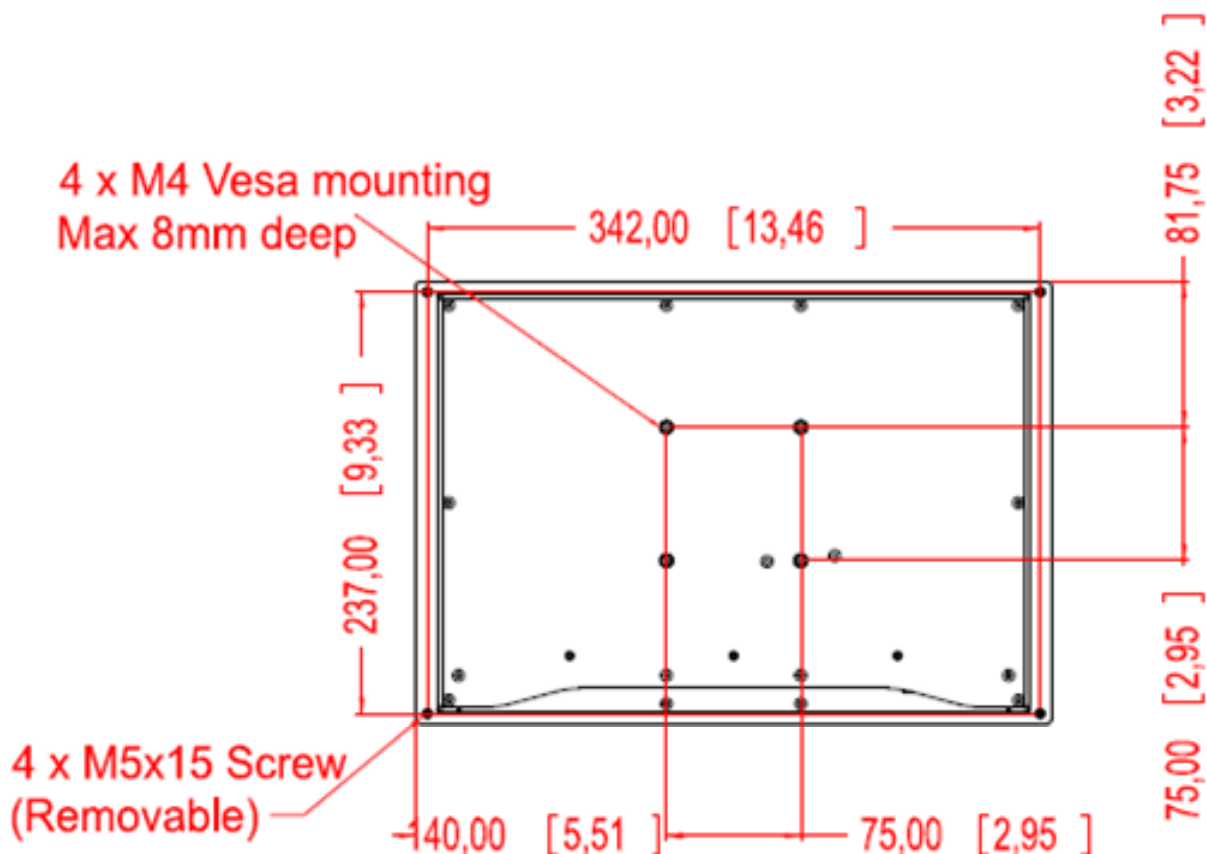

Figure 3 – TSM1330 VESA Arm Mounting Retention Screw Holes
| Figure 3 – TSM1330 VESA Arm Mounting Retention Screw Holes | 7 |
- Step 3:** Align the retention screw holes on the mounting arm interface with those in the TSM1330. The arm mount retention screw holes are shown in Figure 3.